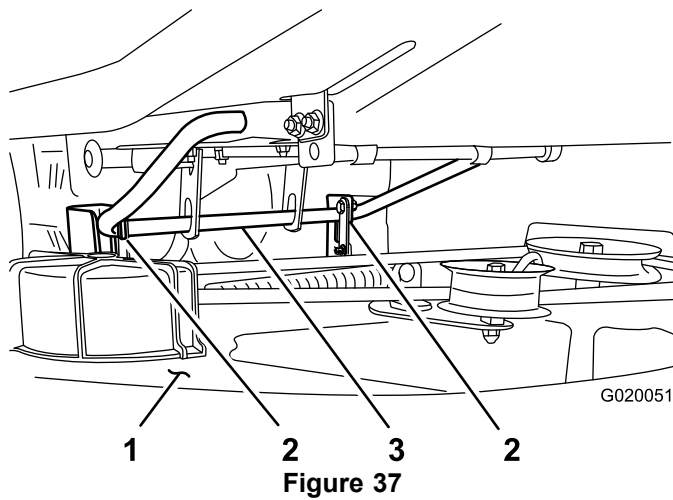
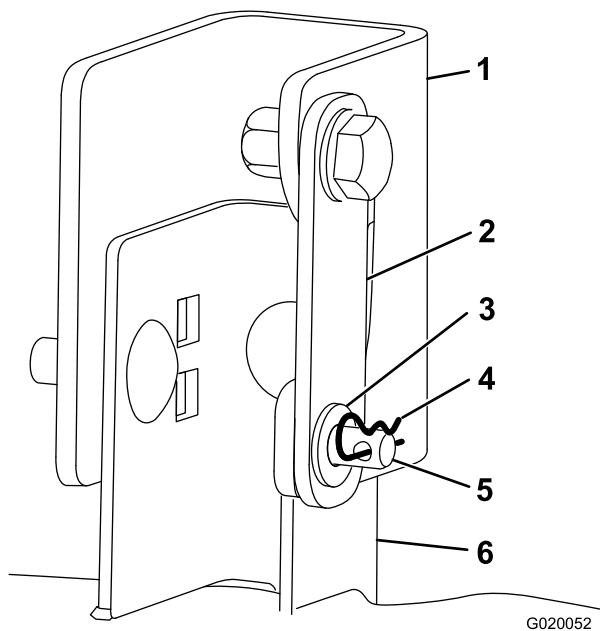

Figure 37
Figure 38
7. Remove the hairpin cotter and washer from the clevis pin in the hanger bracket and deck-support bracket on one side of the mower deck. Repeat for the other side (Figure 37 and Figure 38).
7. Lift the rear of the mower deck, and guide the hanger brackets over the rear lift rod (Figure 37).
8. Swivel each deck-support bracket so that the hole in the loose end aligns with the hole in the hanger bracket (Figure 38).
9. Install the clevis pin through the brackets on each side; then install the washers on the clevis pins and hairpin cotteners through the clevis pins (Figure 38).
8. Lift the rear of the deck slightly to take the pressure off of the clevis pins, and remove them (Figure 37 and Figure 38).
9. Lift the mower deck and the hanger brackets clear of the rear lift rod, and lower the rear of the mower deck carefully to the ground (Figure 37).